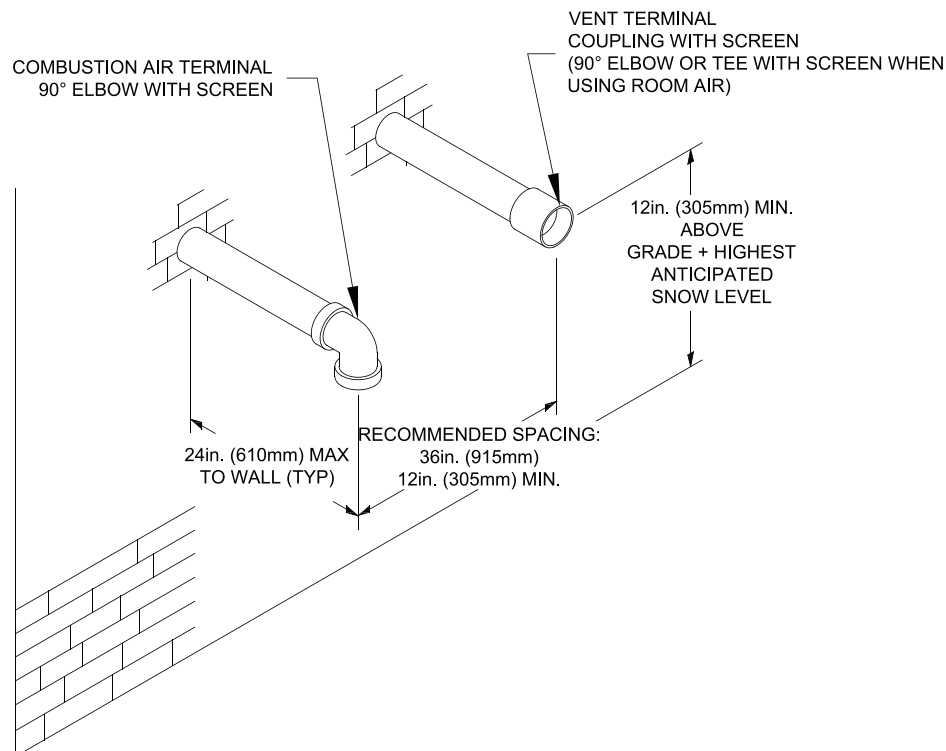
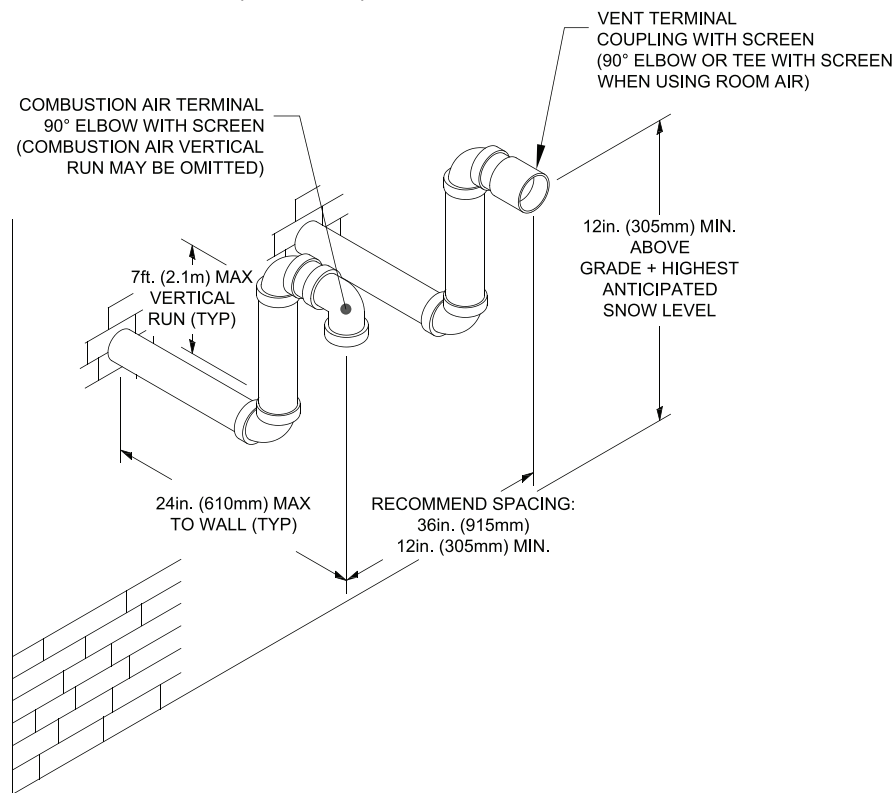
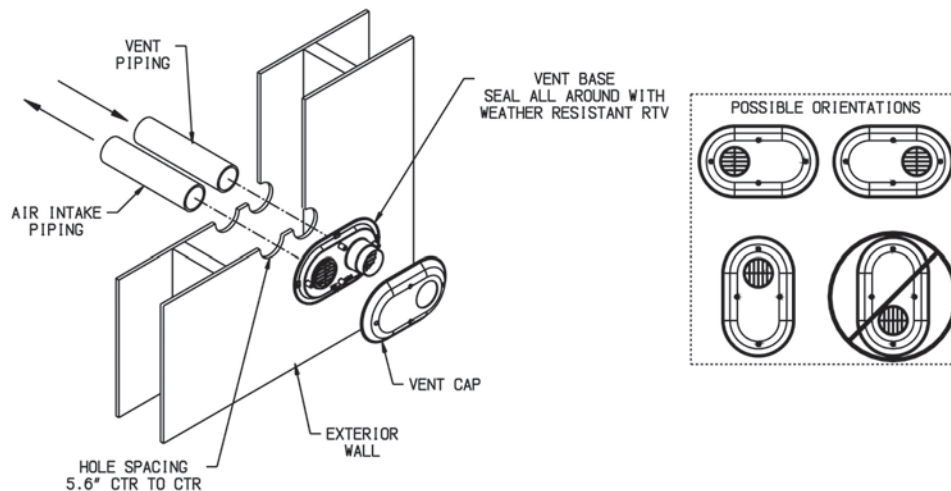

Figure 7: Direct Vent - Sidewall Standard Terminations
Figure 8: Direct Vent - Sidewall Snorkel Terminations
Figure 9: Direct Vent - Sidewall Low Profile Termination
- i. Horizontal Sidewall Venting: Use coupling for vent and 90° elbow pointed down for combustion air as shown in Figure 7 or Figure 8. If using room air for combustion, use 90° elbow or tee for vent. Alternate low profile termination is shown in Figure 9.
- b. See Table 12 for CPVC/PVC installer provided vent and combustion air components required for optional horizontal snorkel terminals shown in Figure 8.